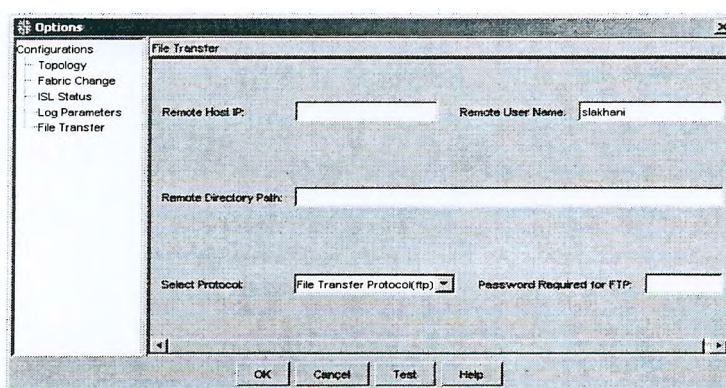

Figure 4-5 Options Window
1. From the **File** menu, select **Options...** The **Options** window opens, as shown in Figure 4-5.